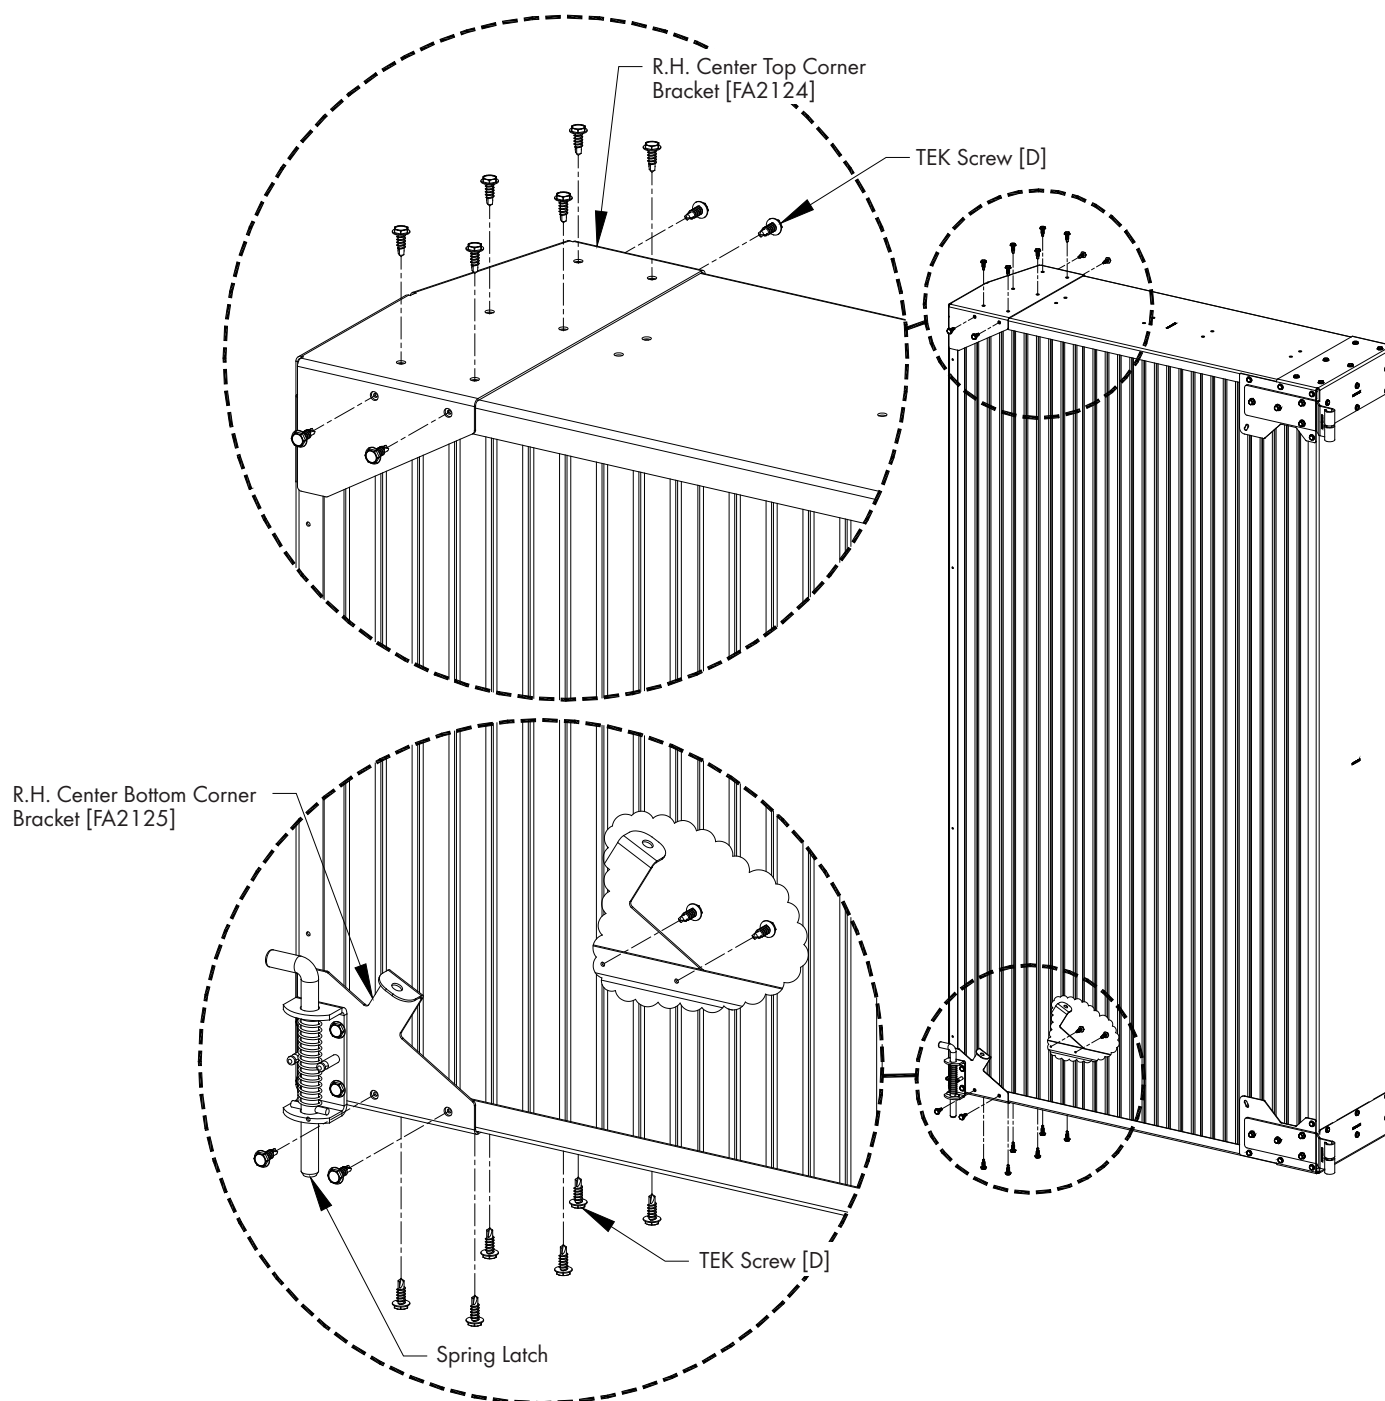

Figure 20
Place the Assembly from the previous step over the R.H. Door to hold the Light Trap in place, so that the Spring Latch is at the bottom on the same side as the Leaf Hinge and fasten in place using (10) TEK Screws [D] in the Top Corner Bracket and (10) TEK Screws [D] in the Bottom Corner Bracket. *See Figure 20.*